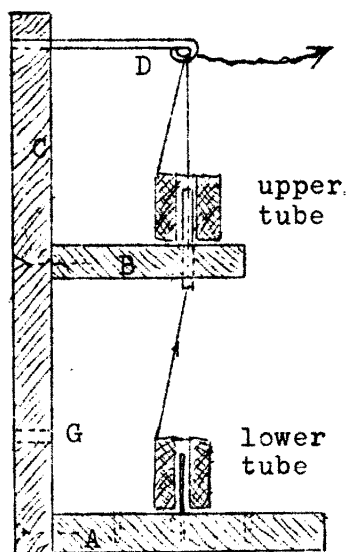

Fig.1
Fig.1 shows the stand and gives an idea as to the principle on which it operates. The base (A) is a 1" board about 8" by 10". To the center of the shorter side of this base we attach a narrow vertical board (C) with two 2" screws. The size of the vertical board is about 1" x 2" x 30". Half way up we fix to this post another smaller horizontal board (B) - 1" x 4" x 7". It has a 3/8" hole right in the center. Finally at the top of the post C we drill a small hole to fit a piece of heavy wire D (old coat hanger), about 7" long. We bend the wire so that it makes a loop at the end directly above the hole in B. Another similar hole (G) is made close to the base of the post C. A piece of the same wire 8" long and straight fits into this second hole, but it must be easy to remove when not in use.